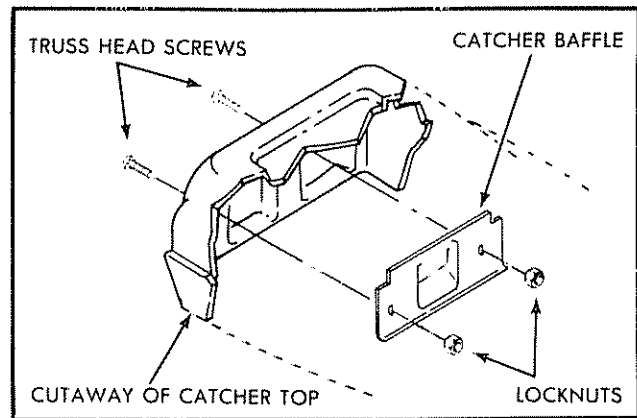

FIG. 9
5. Position baffle inside of catcher top as shown in (Fig. 9). Put two (2) #10-24 truss head screws into holes with two (2) #10-24 locknuts. Use a flat blade screwdriver to drive screws while holding the locknuts with adjustable or 3/8" wrench.